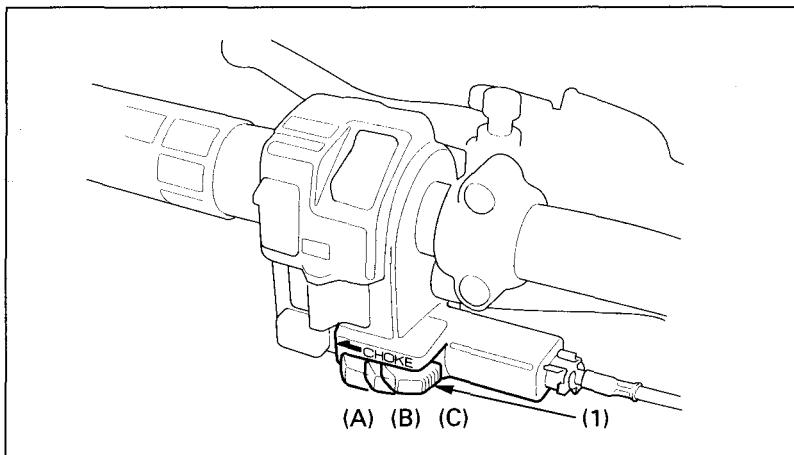

Fig. 2-6 (1) Choke lever
The choke lever (Fig. 2-6) is next to the starter button. The choke has three positions: fully ON (A), halfway position (B), and fully OFF (C).
(1) Kick starter
(2) Right side cover
3. If the engine is cold, move the choke lever left to the full choke position (see Fig. 2-6).